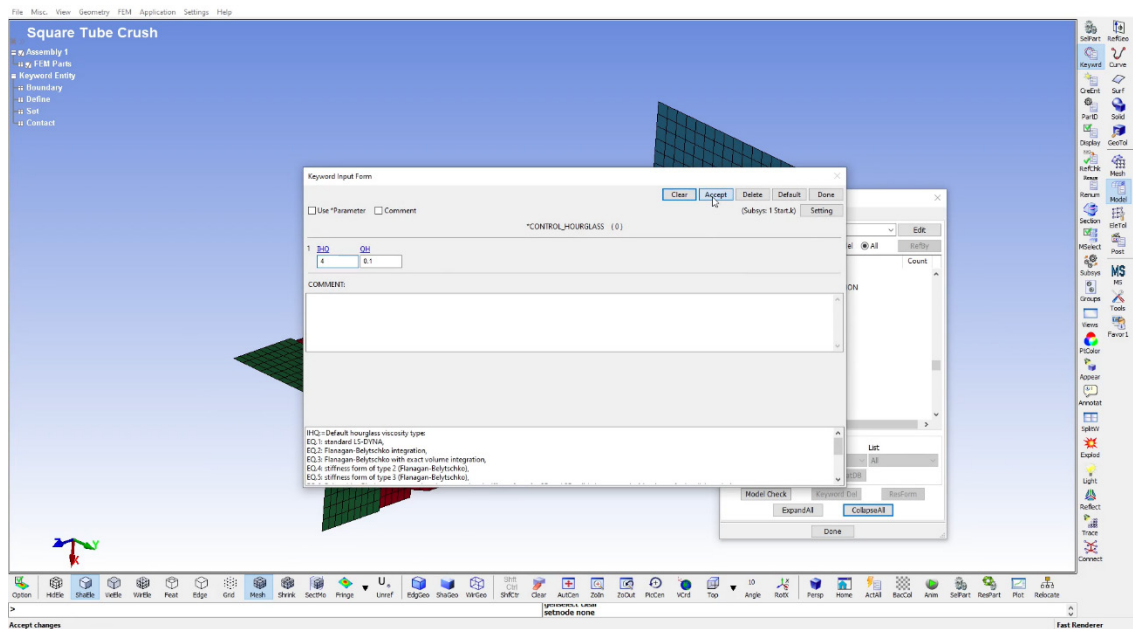

Figure 27: Hourglass controls
specified either for all parts in a model or for an individual part. Use *CONTROL_HOURLGLASS to define it for all parts in the model. Set the hourglass formulation (IHQ9 to 4 (i.e. stiffness form of type 2 (Flanagan-Belytschko)) and the factor (QH) to 0.1 (i.e. default), as shown in Figure 27.